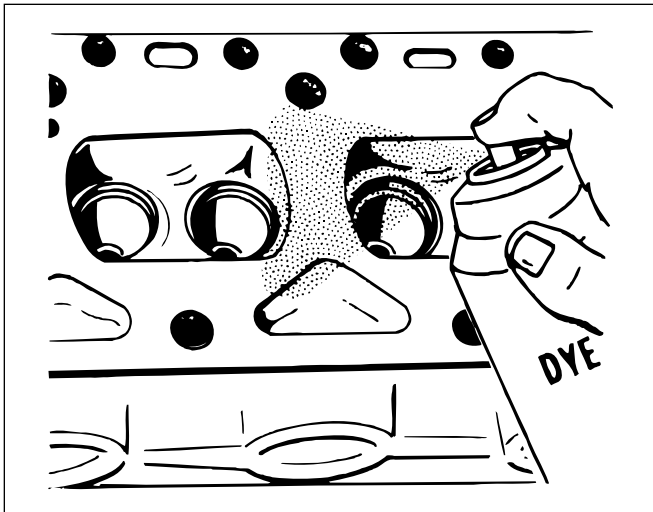

Fig. 2-8. Apply the dye penetrant and allow it to soak in.
2. Apply the dye penetrant to the surface and allow it to soak for several minutes, figure 2-8